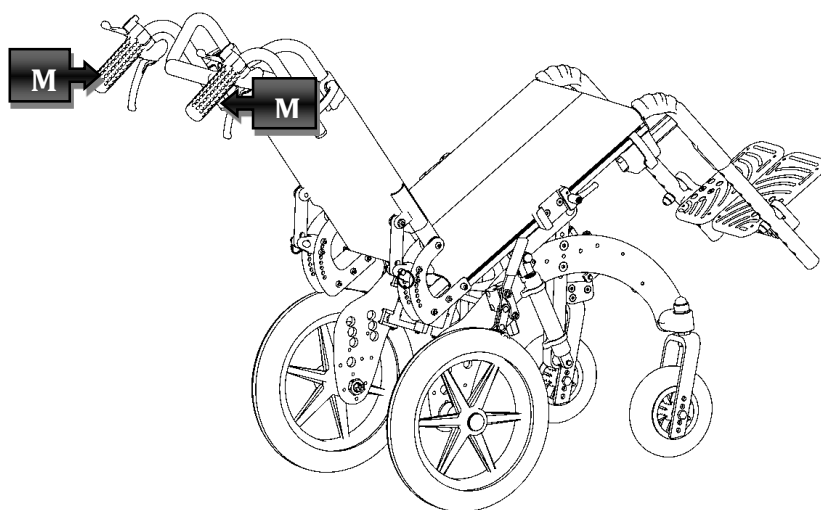

Figure 8
To perform the tilting just make a pressure upward simultaneously on the two levers (M) located under the push handles (see Figure 8) and push down these one.